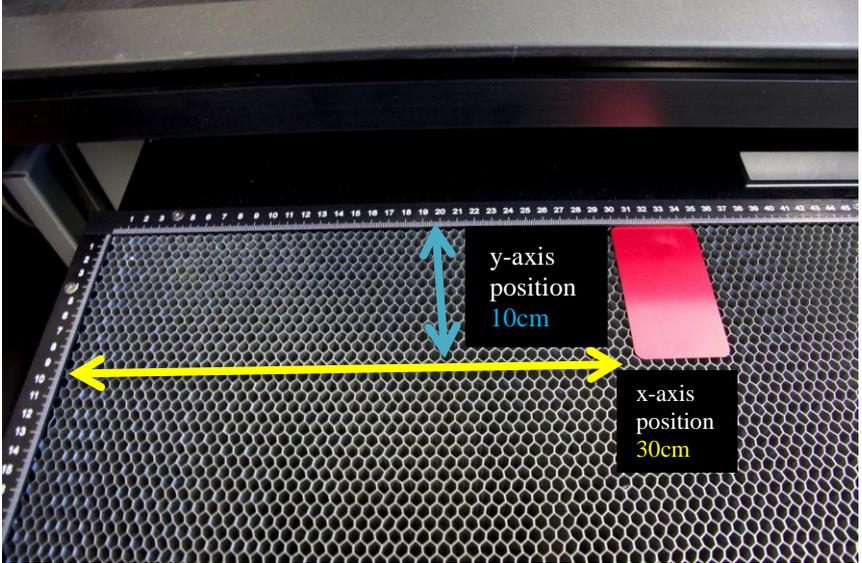

Figure 12: Placement of Material and Measurements
18. **POSITION MATERIAL** to be cut or etched, with both edges against the rulers (Figure 12). **NOTE DIMENSIONS** and **POSITION OF MATERIAL** along the rulers on the bed.